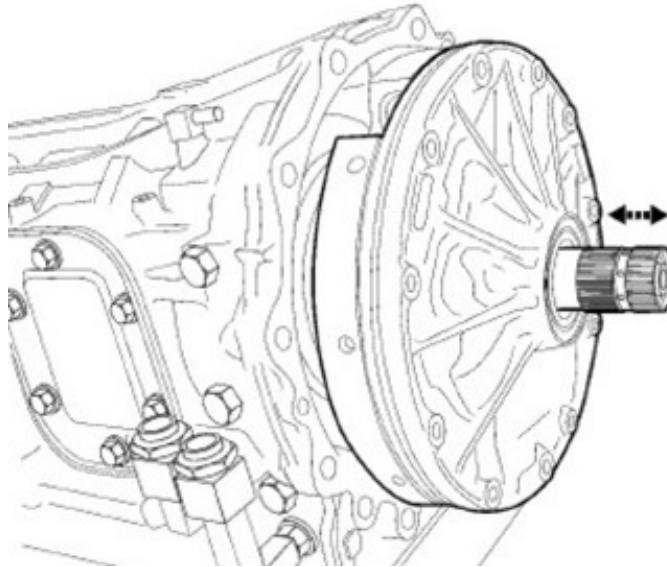

Fig. 13
23. Install the oil pump with a **NEW** gasket onto the transmission case Fig. 13.